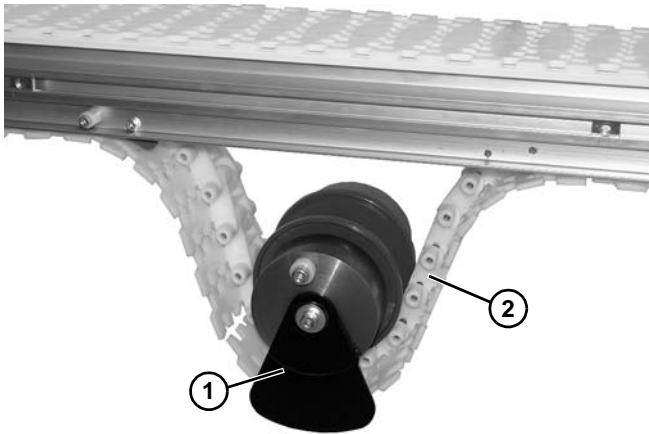

Figure 135
5. Remove idler pulley assembly (Figure 135, item 1) from belt (Figure 135, item 2).